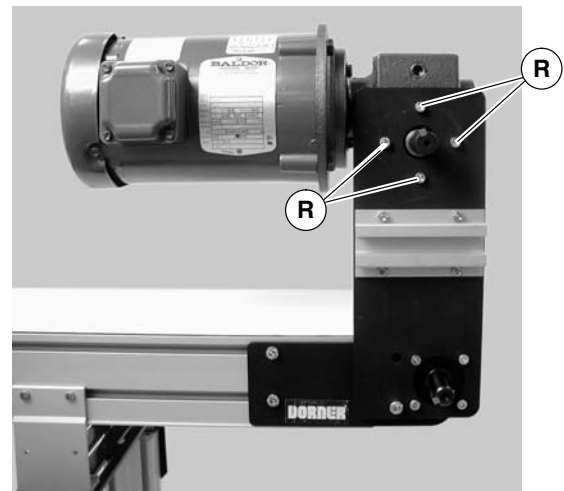

Figure 4
2. If required, change gearmotor position by removing four (4) screws (R of Figure 4). Rotate gearmotor to other position and replace screws (R). Tighten to 110 in-lb (12 Nm).